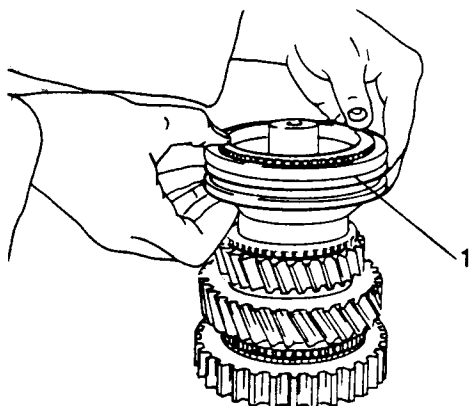

Fig H1.156
- (7) Refer to Fig H1.156. Install the synchro assembly (1) of 3rd and 4th speed with the longer hub of the member towards the 3rd speed gear.